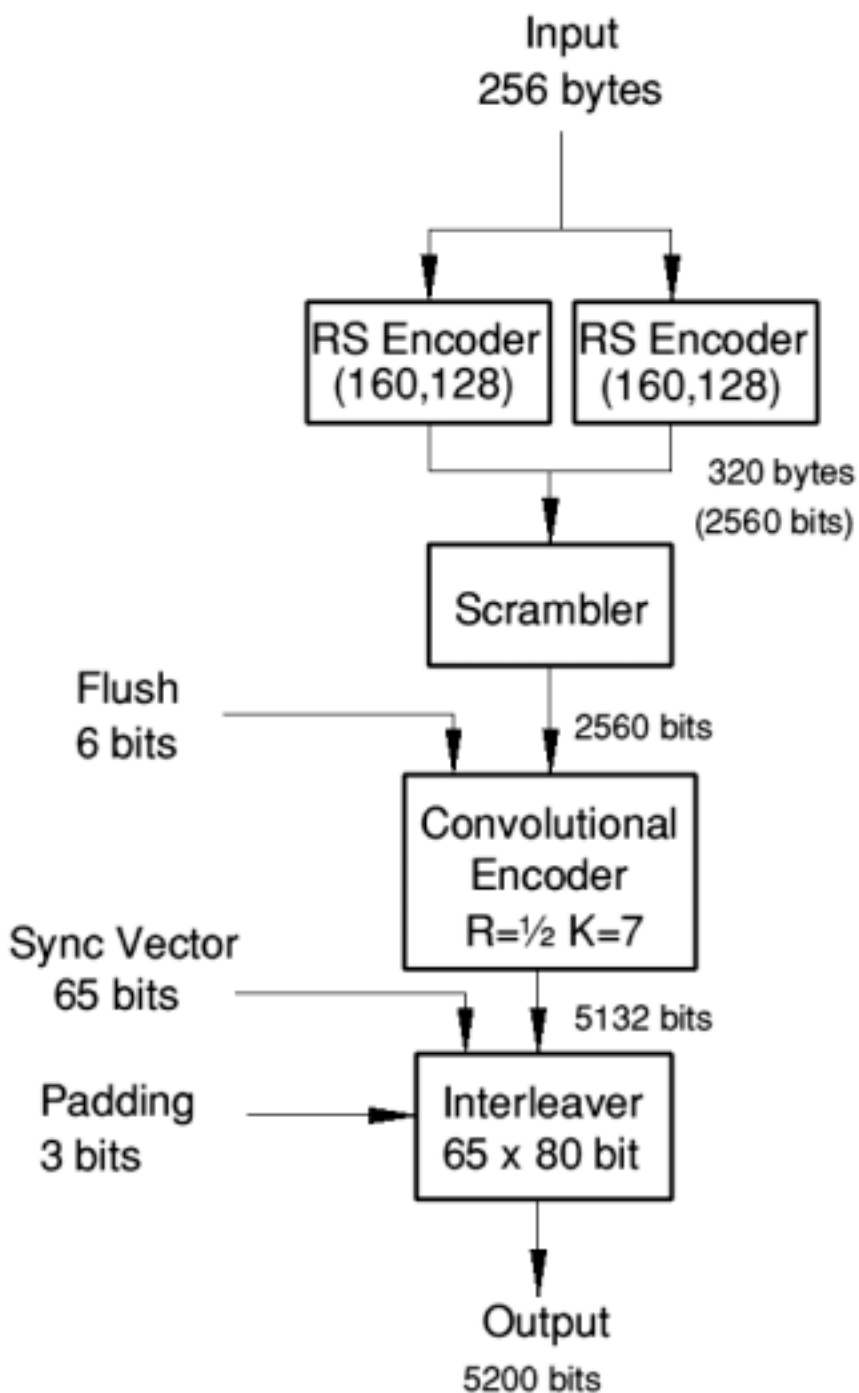

Figure 5. FEC encoding takes 256 bytes in and creates a block of 650 bytes (5200 bits) ready for the beacon to transmit. See text.
The encoding process is illustrated in figure 5. The source data is divided into two halves of 128 bytes each and enter two Reed Solomon (RS) encoders which add 32 parity bytes each. Since the original data is present in the RS blocks, and typically contains undesirable systematic features such as runs of 0s, they are eliminated using a randomiser.